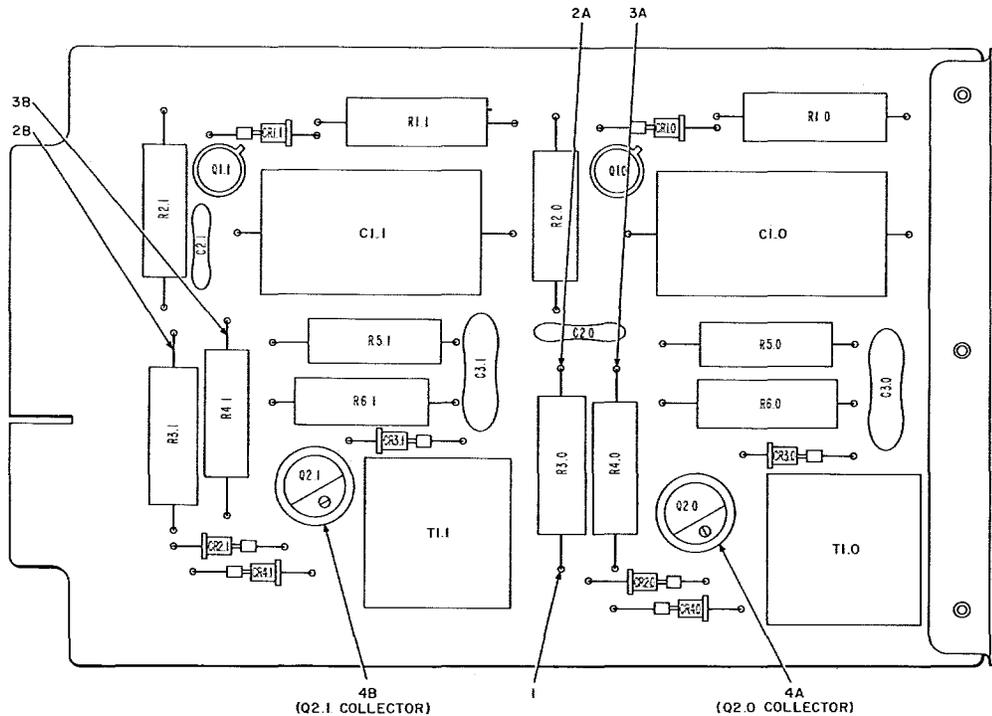

Fig. 3—CP1 Blocking Oscillator Circuit—Component Designation and Test Points
(4) Connect the vertical input of the oscilloscope to terminal 18 of the GP frame receptacle.		Q4 defective, open from Q4 to GP frame receptacle. Open in GP frame receptacle.
(5) Connect the vertical input of the oscilloscope to test point 5.		Q2, Q1, CR1, CR2 defective; C1 shorted. If the 10 μsec ramp is not present, C1 or associated printed wiring may be open. Open wiring between LD and GP circuit boards.
(6) Connect the vertical input of the oscilloscope to terminal 19 of the GP frame receptacle.		Q1 defective, open from Q1 to GP frame receptacle. Open in GP frame receptacle.
C. Possible Fault in CP1 Blocking Oscillator Circuit (Refer to Fig. 3.)
(1) Connect the vertical input of the oscilloscope to terminal 2 of the BO1 frame receptacle.		Open wiring from GP frame receptacle, terminal 18, to BO1 frame receptacle, terminal 2.
(2) Connect the vertical input of the oscilloscope to terminal 2 of the BO1 frame receptacle.		Open wiring from GP frame receptacle, terminal 19, to BO2 frame receptacle, terminal 2.